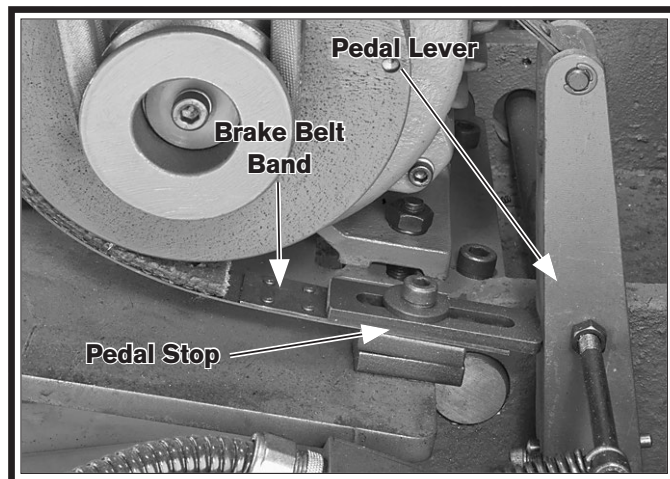

Figure 127. Brake belt adjustment components.
5. Remove the pedal stop shown in **Figure 127**.